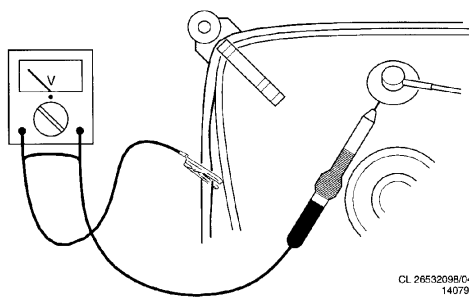

Fig. 3.1
2. In order to prevent damage to **ICs** and transistors, all high-voltage flash-overs must be avoided. In order to prevent damage to the picture tube, the method shown in Fig. 3.1 should be used to discharge the picture tube. Use a high-voltage probe and a multimeter (position DC-V). Discharge until the meter reading is **0 V** (after approx. 30s).